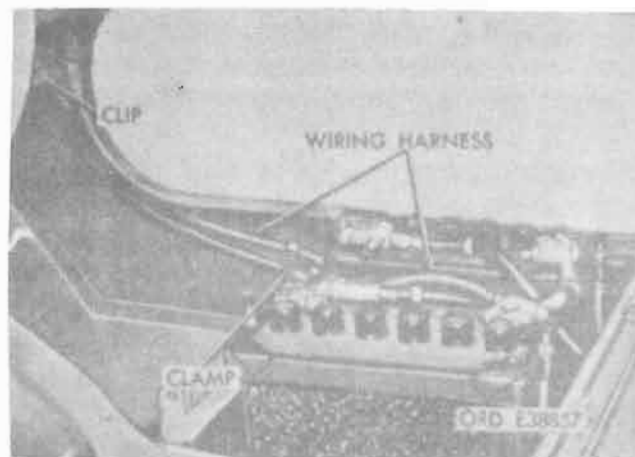

Figure 18-116. Crew compartment wiring and clips.
(13) Disconnect existing lead No. 27 from the ignition switch and insert into lead (12) and connect lead (11) on ignition switch.
(14) Install grommet (9) in right seat riser and route cable lead (10) into battery compartment.
(15) Secure cable lead (10) to existing battery cable using straps (7) and secure cables to vehicle using clamps (6 and 8) with existing hardware (fig. 18-116).
(16) Install batteries and reconnect cables; connect lead (10) to positive terminal connector.
(17) Install battery compartment cover and right front seat.
(18) Fill radiator with coolant and check for leaks.